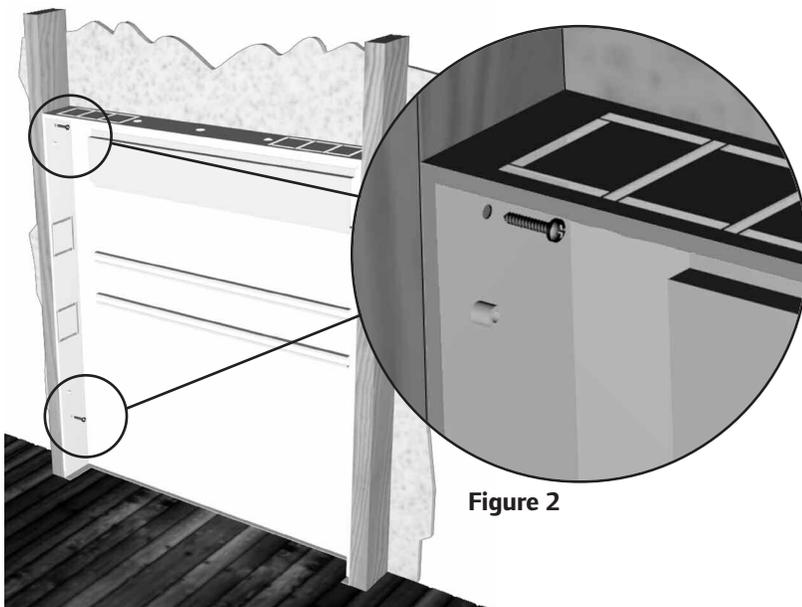

Figure 2
3. Using wood screws, attach the manifold cabinet to the stud framing. (See **Figure 2.**)